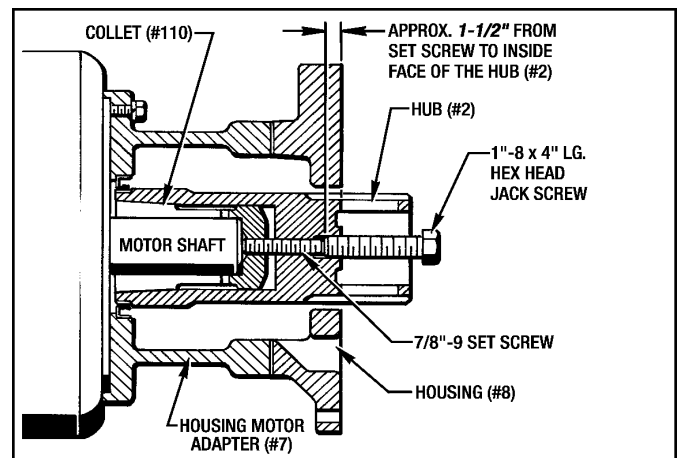

Figure 7.9 - Removing Hub (#2) for MSB12
- Install a 7/8"-9 Set Screw into the Collet (#110). Determine the length of this Set Screw so there is approx. 1-1/2" of exposed thread left in the Hub. Then install a 1"-8 x 4" Lg. Hex Hd. Jack Screw into the Hub (#2). While holding the Hub (#2) with the Hub Holding Tool, tighten the Jack Screw to force the Hub (#2) off the Collet (#110) as shown in Figure 7.9).